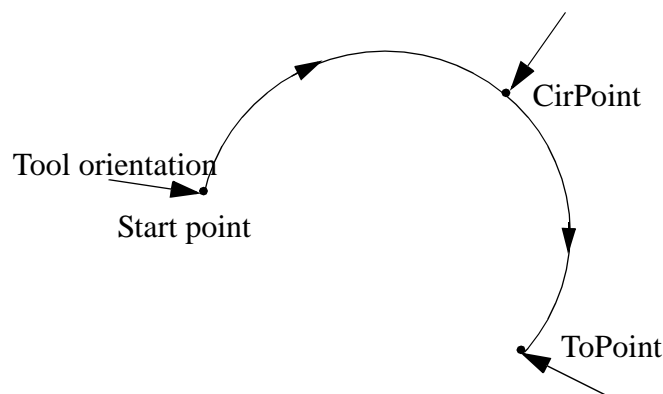

Figure 3 Tool orientation during circular movement.
- The reorientation is performed relative to the circular path. Thus, if the orientation relative to the path is the same at the start and the destination points, the relative orientation remains unchanged during the movement (see Figure 3).